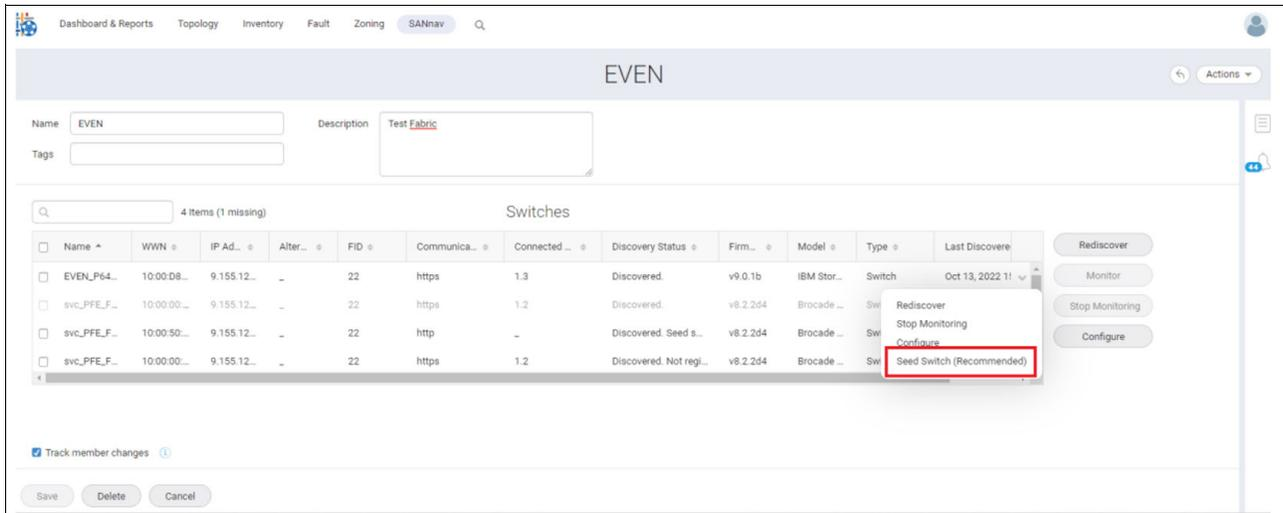

Figure 4-18 Changing a seed switch
4. Click the down arrow in the rightmost column to open the action menu for the switch and click **Seed Switch** or **Seed Switch (Recommended)**, as shown in Figure 4-18 on page 75.